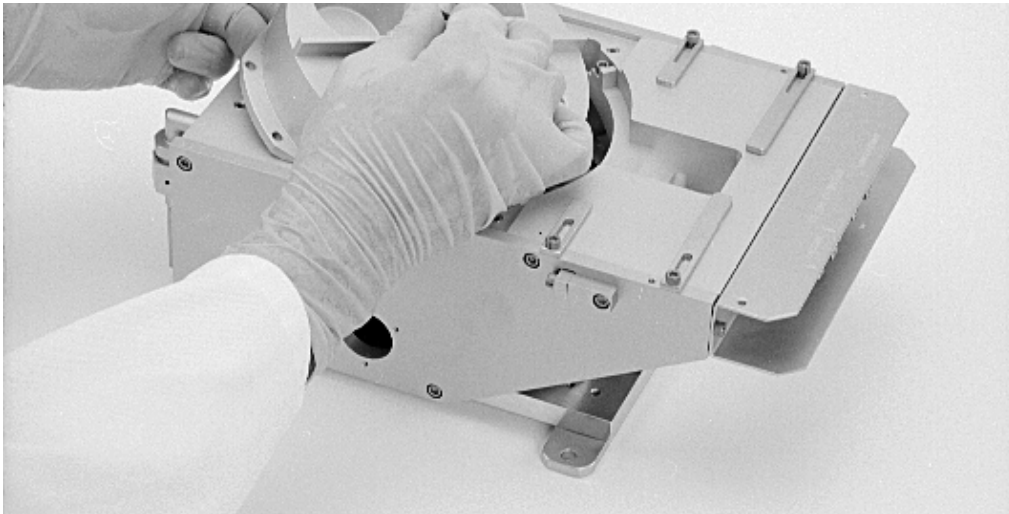

Figure 5-9. Removing the crucible from the source. Note angle of withdrawal.
- (b) Raise rear edge of crucible until it just clears the edge of the coil housing to the rear of the crucible (see Figure 5-9).
- (b) Angle the crucible into the position shown in Figure 5-9. Next, lower its rear end so that its bottom surface is horizontal; then lower the crucible straight down onto the O-ring. As you perform this step, take great care to avoid scraping the underside of the crucible's O-ring-sealing surface against the water baffle.